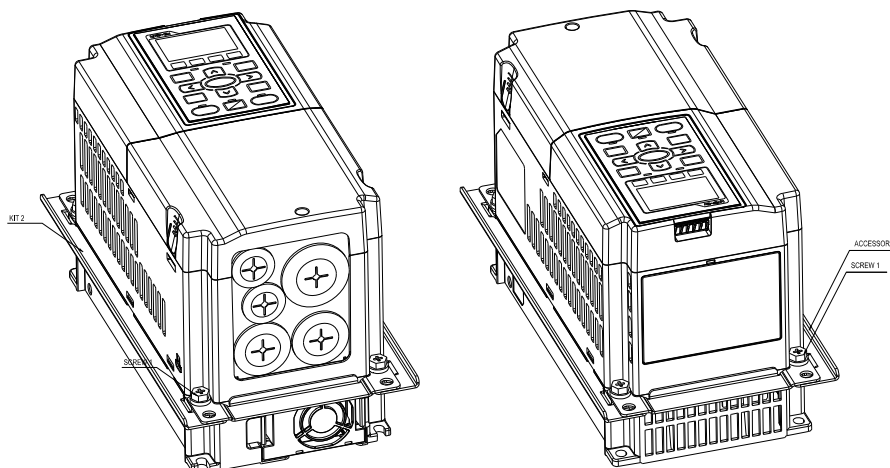

Figure 2
2. Fasten screw*2(M6) and accessory 2 &3. Screw torque: 25~30 kg-cm / [21.7~26 lb-in.] / [2.5~2.9 Nm] (figure 2)